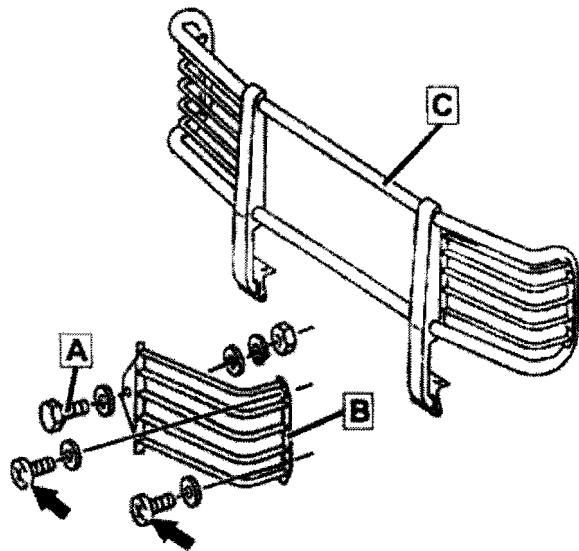

Figure 5
- Remove bolt (A, Figure 5) and two screws (arrows) then remove headlamp grill (B) from front brush guard (C). Repeat this step on opposite side.